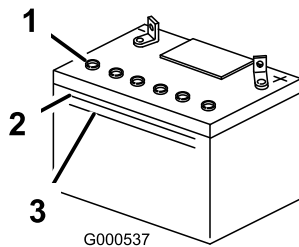

Figure 34
2. Look at the side of the battery. The electrolyte must be up to the Upper line (Figure 34). Do not allow the electrolyte to fall below the Lower line (Figure 34).
3. Remove the vent caps from the battery (Figure 34).
4. Slowly pour distilled water into each battery cell until the electrolyte level is up to the Upper line (Figure 34) on the battery case.
5. Wait five to ten minutes after filling the battery cells. Add distilled water, if necessary, until the electrolyte level is up to the Upper line (Figure 34) on the battery case.